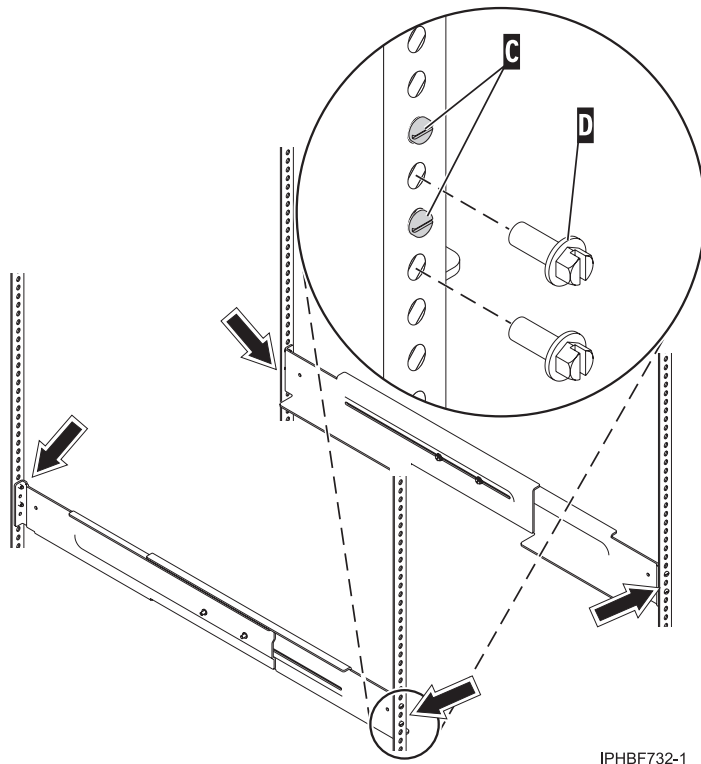

Figure 91. Attaching the system rails
7. Using two M5 screws (D), secure the right rail to the front of the rack.
8. Moving to the back of the rack and using two M5 screws (D), secure the left rail to the back of the rack.
9. Using two M5 screws (D), secure the right rail to the back of the rack.
10. Tighten the two screws in the middle of the left rail and the two screws in the middle of the right rail. Refer to Figure 91.